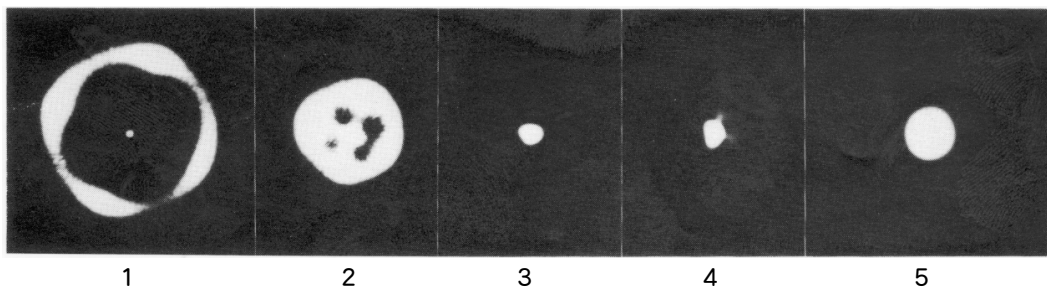
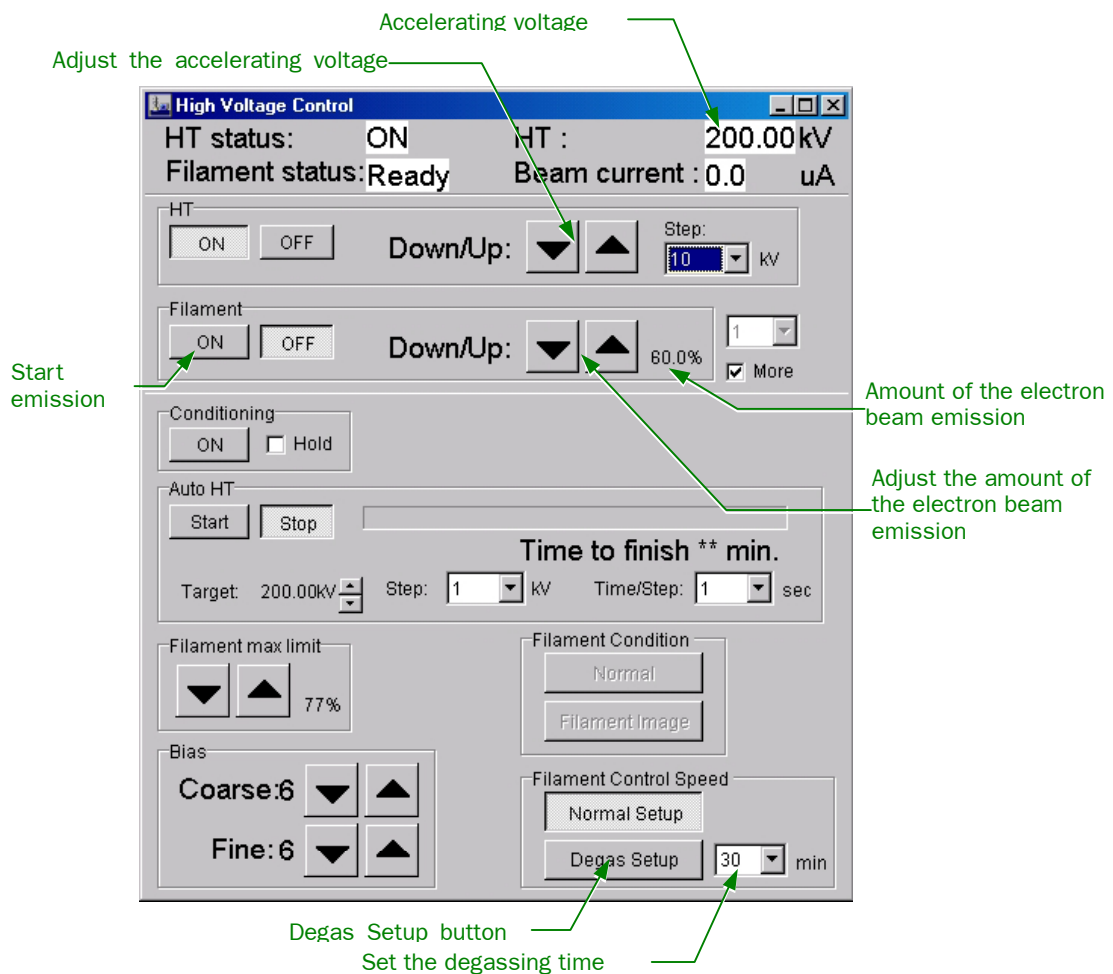

Fig. 6.12 Change of the beam image depending on the Coarse value in Bias
Fig. 6.13 Degassing the filament (High Voltage Control window)
1. Set the accelerating voltage to 0 kV using the ▼ button in the HT box in the **High Voltage Control** window (Fig. 6.13).
2. Set the amount of the electron beam to 60 to 70% using the ▼ and ▲ buttons in the Filament box in the **High Voltage Control** window (Fig. 6.13).
3. Click on the **Degas Setup** button in the Filament Control Speed box in the **High Voltage Control** window to turn it on (Fig. 6.13).
4. Select the degassing time from the list box beside the **Degas Setup** button in the Filament Control Speed box in the **High Voltage Control** window (Fig. 6.13).
5. Click on the **ON** button in the Filament box in the **High Voltage Control** window (Fig. 6.13).
8. Click on the **OFF** button in the Filament box in the **High Voltage Control** window to turn it off (Fig. 6.13).
10. Set the Coarse to 9 in the Bias box in the **High Voltage Control** window (Fig. 6.13).
12. Click on the **Gun** button in the DEF Select box in the **Alignment Panel for Maintenance** to turn it on, and project the electron beam on the fluorescent screen using the SHIFT X and Y knobs (L1-⑧, R1-③).
14. Gradually reduce the Coarse value in the Bias box in the **High Voltage Control** window to bows the cross over so that the beam image changes like Photos 1 to 2 in Fig. 6.12.
15. Reduce the Coarse value in the Bias box in the **High Voltage Control** window so that the beam image looks like Photo 3 in Fig. 6.12.
16. Gradually increase the amount of the electron beam using the ▲ button in the Filament box so that the beam image changes like Photos 3→4→5 or Photos 3→5 in Fig. 6.12, until it reaches the saturation position.
Normally, when the values in the **High Voltage Control** window are as follows, you will obtain the beam image like that in Photo 5 in Fig. 6.12.